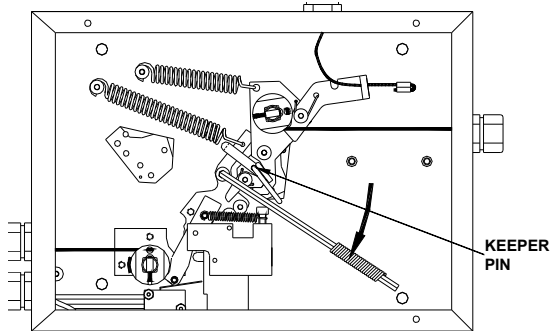

Figure B-13.
2. Locate the 3/16" Hex Head Socket and insert the BFR-FHD into it. Rotate the BFR-FHD clockwise and disengage the Keeper Pin hook from the Detection Trigger. Remove the Keeper Pin assembly slowly rotate the BFR-FHD counter-clockwise until the Detection Trigger engages the Catch. See **Figure B-13**.